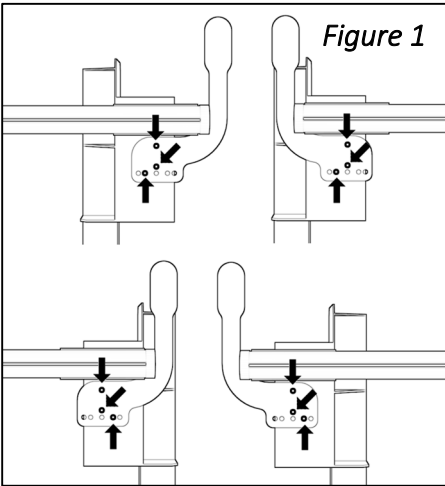
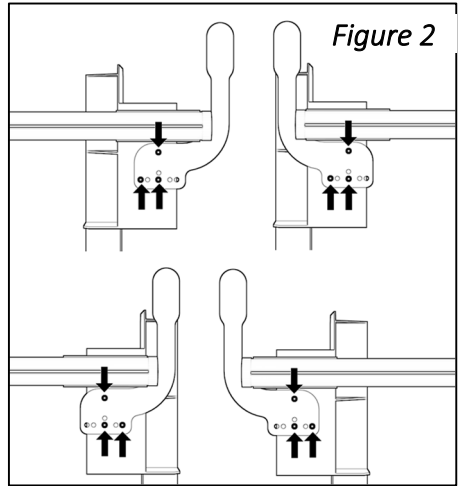

Figure 1
Figure 2
- For mounting purposes, we recommend using the holes indicated in Figure 1. If those holes will not work for you, you can also use the layout shown in Figure 2.